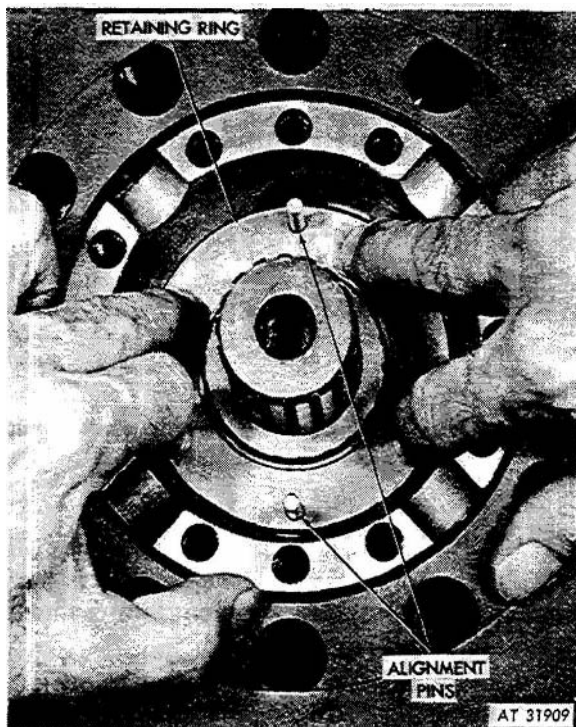

Figure 3-113. Installing retaining ring using alignment pins (11660109).
(16) Remove gage block assembly (6, fig 3-102) from shaft (1) and install alignment pins (11660109) in the inside diameter of the roll pins (12, fig 3-99). Position retaining ring (10) inside housing (18) with bevel side of ring facing into housing. Align pin holes in retaining ring with alignment pins (fig 3-113).